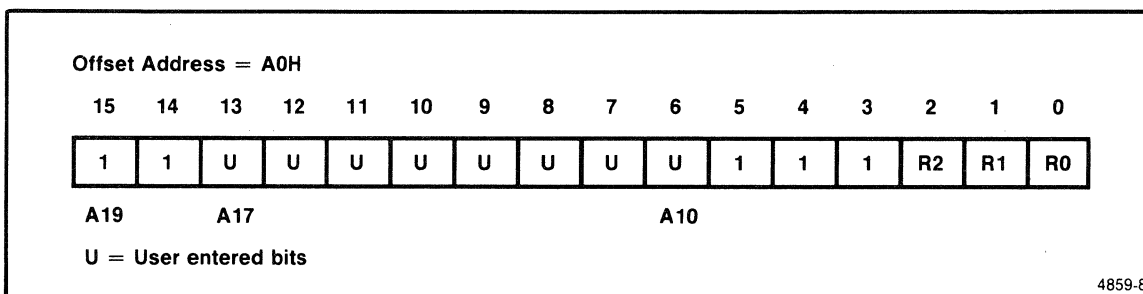

Figure 2-7. UMCS Register format.
The 80186 generates an upper memory chip-select output UCS(L) when accessing a memory block located at the top of memory. The upper limit of the memory block defined by this chip-select is always FFFFF. You can program the lower address limit of the block, permitting a block size from 1K bytes to 256K bytes. Table 2-5 shows the relationship between the starting address (lower address limit) selected and the size of the memory block. The upper memory block is defined in the UMCS Register. Figure 2-7 shows the bit format for the UMCS Register.